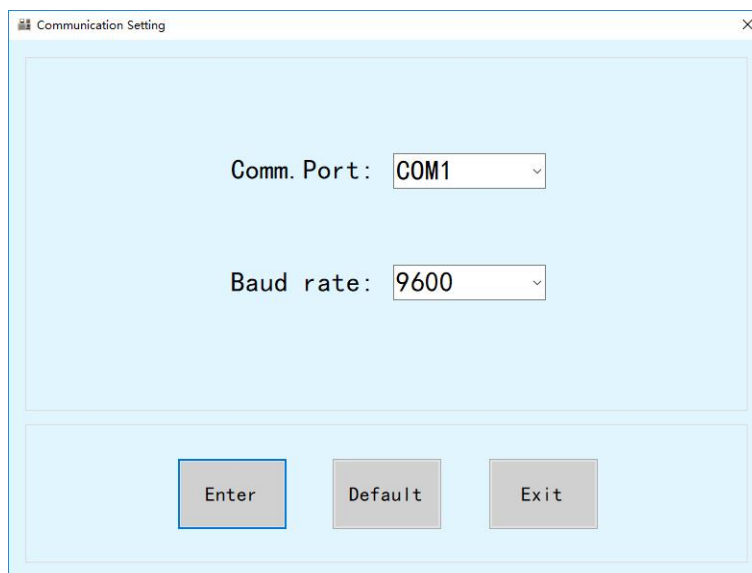

Fig.5
3. Click “Setting” button, it can enter the interface of the communication setting (See Fig.5).The serial port number of the communication port can be set according to the serial port of the industrial computer connected by the serial port line. Click “OK” to save the new setting value and exit this interface. Other communication settings have been set before the instrument leaves the factory, please do not change at will!